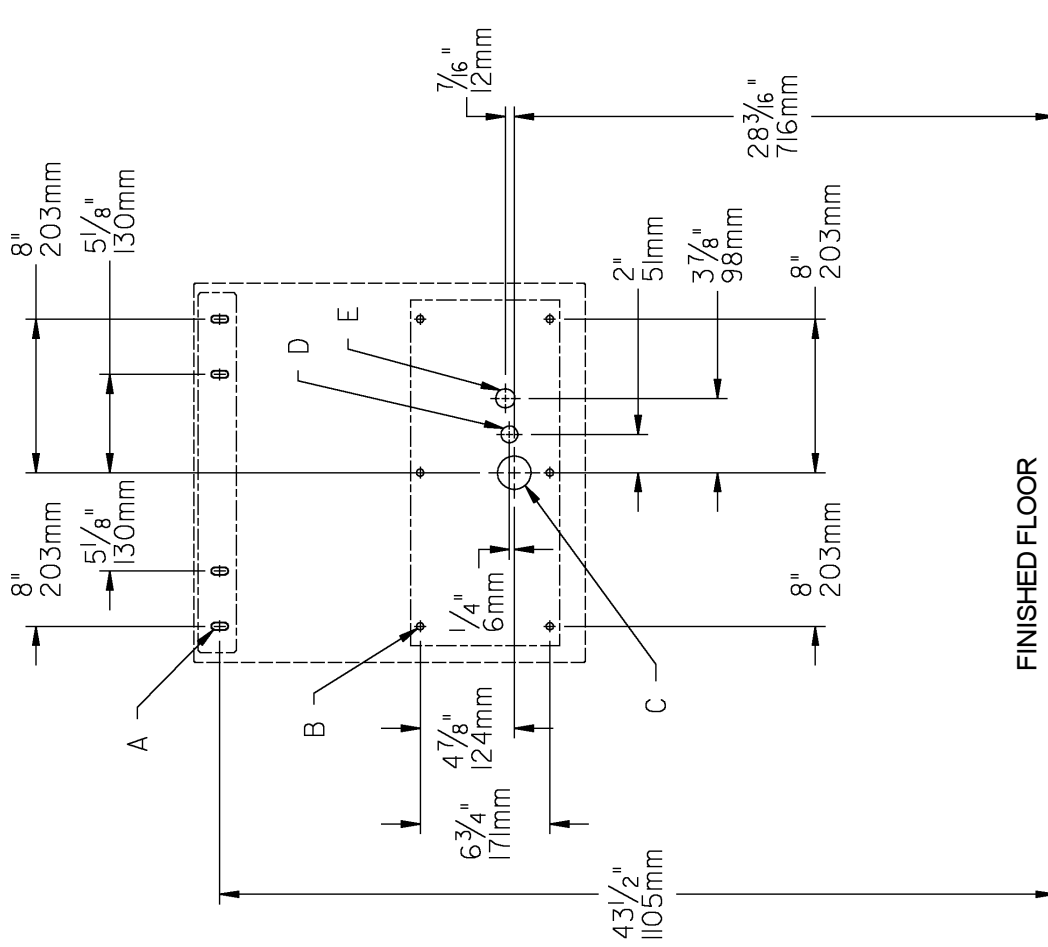

FIG. 1
1. Wall should already be framed for the fountain using dimensions shown in Fig. 1. Shown dimensions pertain to installation location. These dimensions are required for compliance with ANSI Standard A117.1. (and ADA) (Framing shown for reference only).